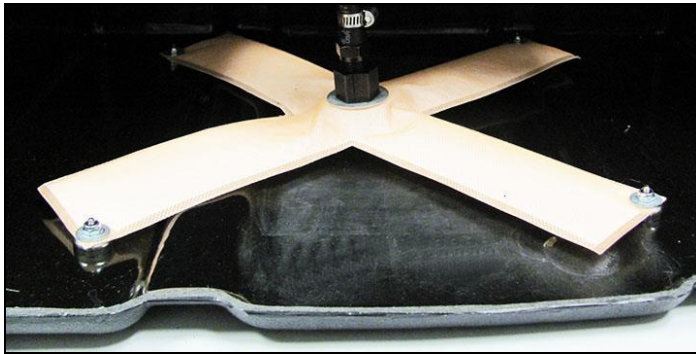

Figure 1a
1. Install the corner magnets as instructed in kit 16-203 to the HydraMat (**Figures 1a & 1b**).